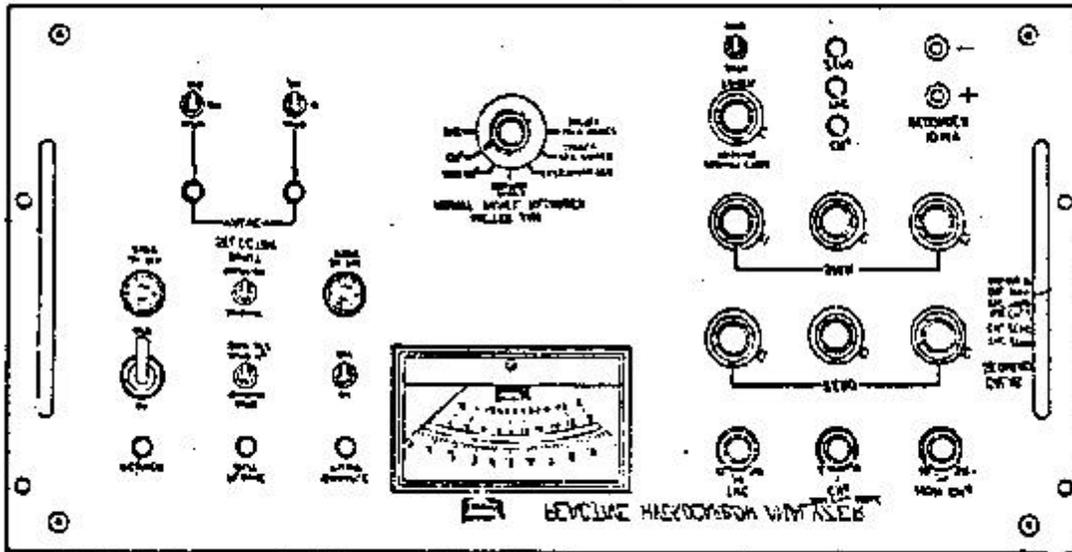
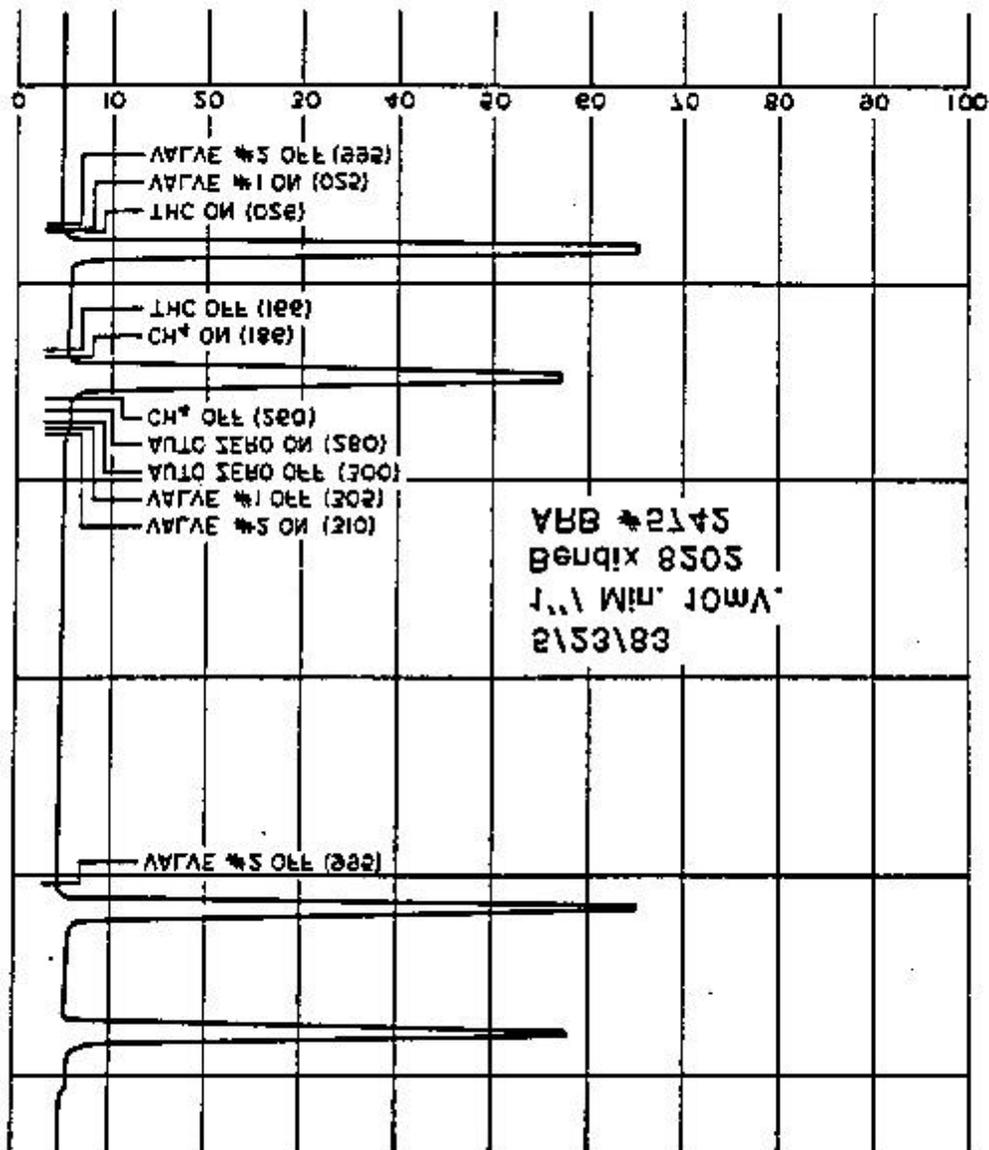

Figure J.1.3.1
Figure J.1.3.5
- d. Using the chromatogram that was run in Paragraph J.1.3.2.2., set CH₄ gate with R-66 on J-10 to turn "on" slightly before the start of CH₄ peak (Figure J.1.3.5). Check by rotating the cycle dial back and forth.
- f. To set the THC gate off time, take the dial reading of the CH₄ gate "pn", and subtract 020 from this (see Figure J.1.3.5, CH₄ "on" 186-020 = 166 is THC "off") set with R-64 on J-10. This 020 between THC "off" and CH₄ "on" allows the electronics to zero before processing the CH₄ peak.
- g. Set the 2nd AUTO ZERO "on" time by adding 20 counts to the CH₄ "off" time (see Figure J.1.3.5, CH₄ "off" 260 + 20 = 280 is AUTO ZERO "on") and adjust R-29 on J-10 to turn the zero light on.
A chromatogram is excellent for checking instrument performance and an invaluable tool for troubleshooting. Refer to Figure J.1.3.1 for front panel layout. See Figure J.1.3.5 for an example of a chromatogram.
Refer to spectrum (chromatogram) analysis in the Bendix Manual, Section 5.3.2.1, if your chromatogram does not look like Figure J.1.3.5. When interpreting their examples, note that their timing cycle is different from the CARB modification cycle.